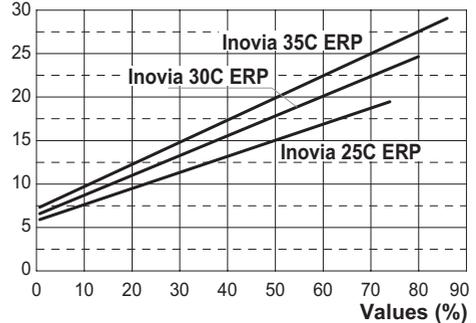
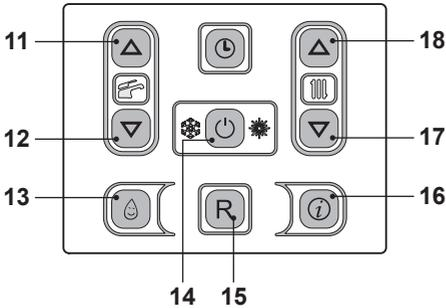

Fig. 7.44
Fig. 7.46
Refer to Fig. 7.44 and determine the correct Value appertaining to the output required for the central heating requirement.
- Enter the "programming mode" by pressing keys 14 - 17 - 18 (Fig. 7.46) for 10 seconds at the same time until the letters **P01** are displayed on the LCD display, indicating that "parameter 01" (Fig. 7.45) has been activated.
- It is possible to modify parameter using keys 11 or 12 (Fig. 7.46) (Refer to Fig. 7.44 and determine the correct Value appertaining to the output required for the central heating requirement.).
- By pressing key 14 (Fig. 7.46) confirmation of the inserted value is obtained.
- Press keys 17 or 18 (Fig. 7.46) to exit without changing the value.